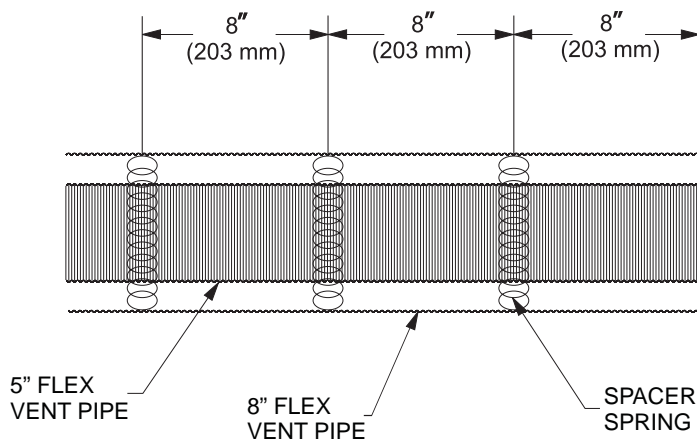

Figure 69
5. Install the Wall Firestop/Thimble assembly as required through the wall. Refer to the venting charts in the fireplace manual to determine the proper height and size of the vent opening. The minimum opening should be 10" wide by 12" high. The minimum combustible clearance from the horizontal vent is 1" from sides and bottom, and 3" above the vent pipe. **See Figure 69.**